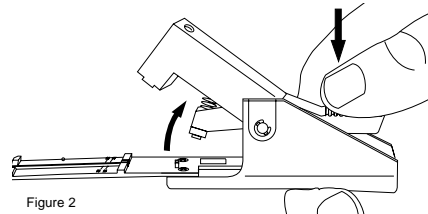

Figure 2
4.1 Press down on the handle to open the cleaver's fiber clamp (Figure 2).